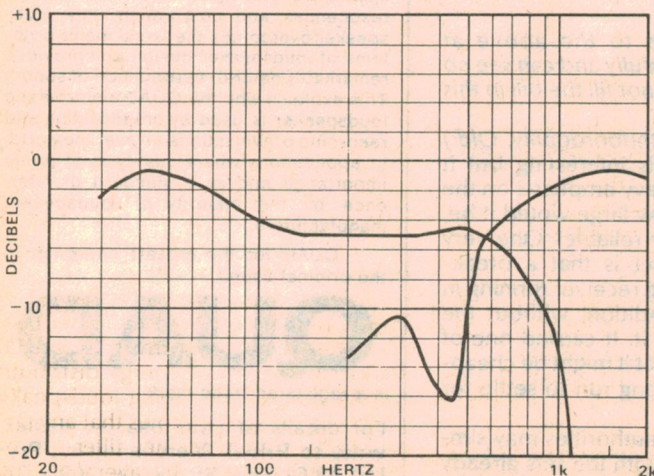

Fig. 2: The output voltage from the crossover, measured at the speaker terminals, with no mid-range attenuation.
**ATTENUATION TECHNIQUES:** Having established the requirement for level matching and rapid stopband attenuation, two techniques not normally found in crossover systems have been employed. The first of these is the replacement of the simple L or C elements by series L-C pairs. These exhibit approximately the same L or C value as required by the filter at the crossover frequency but go to series resonance at frequencies between half and one octave into the stopbands. Figs. 2 and 3 show the effectiveness of this technique.